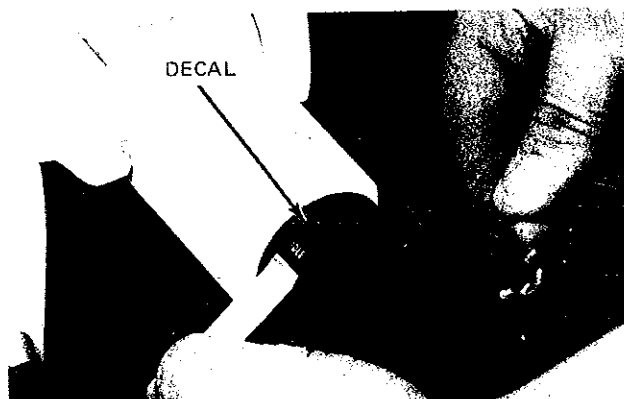

Figure 40
- (9) (Models manufactured in 1976.) Install nylon washer on twist grip handle and push the handle shank into the handle hub.
- (10) Replace the flat washer and flange nut. Tighten the nut to provide suitable twist-grip operation of the throttle linkage. Replace the handle grip cap at the end of the handle grip.
- (11) Following reassembly of the twist grip, place the gear selector in neutral and turn the twist grip counter-clockwise to the stop. Locate the new decal so that the word "Start" aligns with the pointer on the hub (Figure 40).